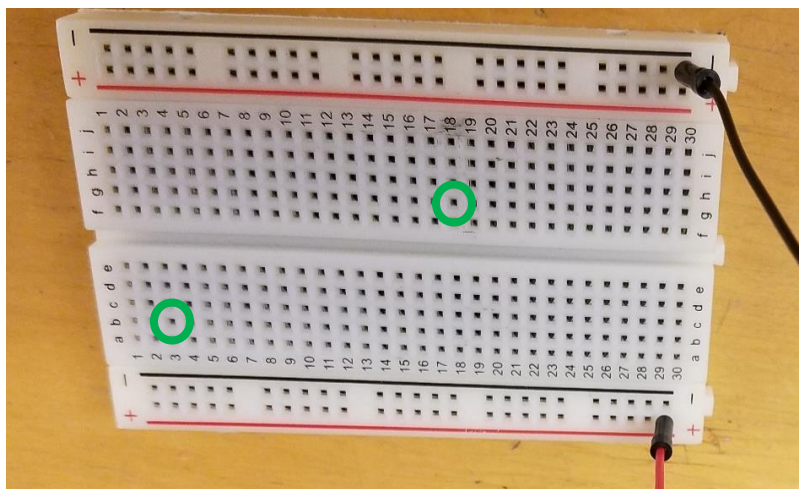

Figure 5: Breadboard with B-3 and G-18 circled in green. Note the jumpers are plugged into “Upper-25” and “Lower+25”.
- h. **NOTE: Individual breadboards vary, including marking of rows and columns and power busses.** Note that the rows and columns of your breadboard are arranged in a rectangular grid, with letters marking the rows and numbers marking the columns (Fig. 5). Insert your jumpers into the breadboard according to Table 1. Record the resistance and if you heard a beep.
Go back to Tables 1 & 2 and label each value as SHORT or OPEN. (Table 2, line 1 is a trick question!) Sketch the connections (SHORTs) from Table 1 on or next to Fig. 5.
\* See Figure 5 for Upper+ and Lower+